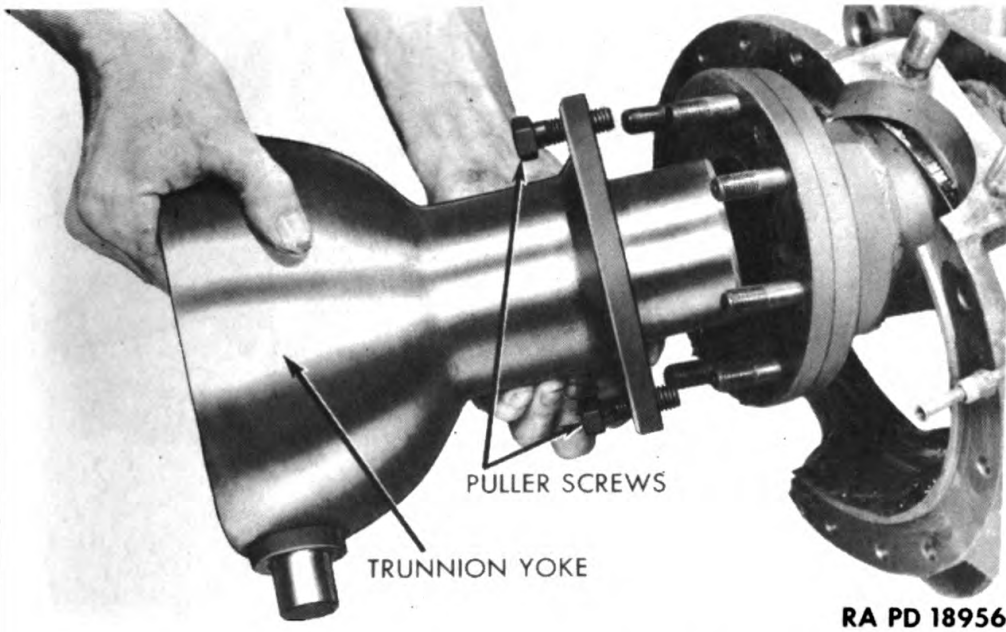

Figure 38 — Removing Trunnion Yoke
m. Remove Trunnion Yoke from Housing. Remove eight nuts and lock washers from studs holding trunnion yoke to axle housing (fig. 37). Screw two cap screws into threaded holes in trunnion yoke to force yoke from housing. Remove yoke (fig. 38). Lift inner half of trunnion yoke housing from axle.